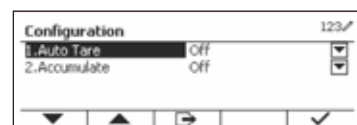

Figure 26
1. Press the button corresponding to the icon to enter Configuration. The Configuration screen is now displayed. (See Figure 26)